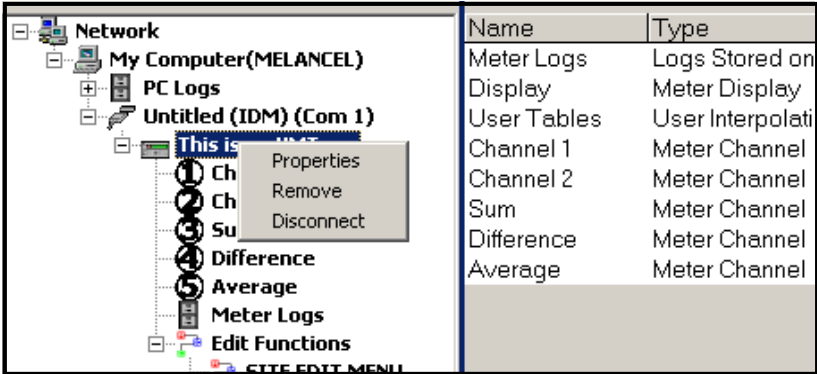

Figure 5: *Properties* Option in the *New Meter Browser*
- 2. Right-click on the highlighted XMT868i and click on the *Properties* option, as shown in *Figure 5*.